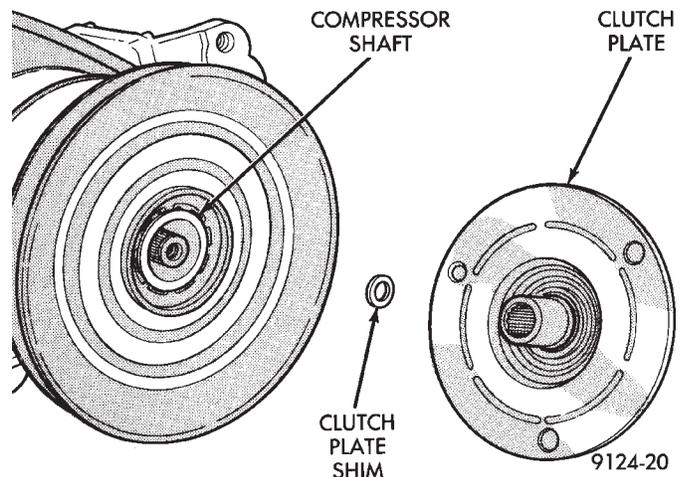

Fig. 31 Clutch Plate and Shim
(4) Tap the clutch plate with a plastic mallet to release it from the splines on the compressor shaft. Remove the clutch plate and shim(s) from the compressor shaft (Fig. 31).